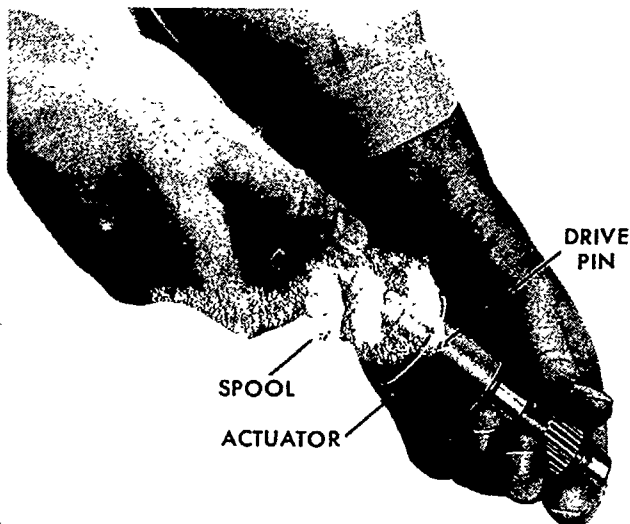

Figure 97
3. Prior to installing the drive shaft and spool assembly, check to be sure that the spool drive pin is engaged by pulling the spool away from the actuator as shown in Figure 97. If the spool separates from the actuator, relocate the pin by positioning the spool against the actuator then inserting the pin into either of the two holes in the base of the spool. Carefully insert the assembly into the housing bore.